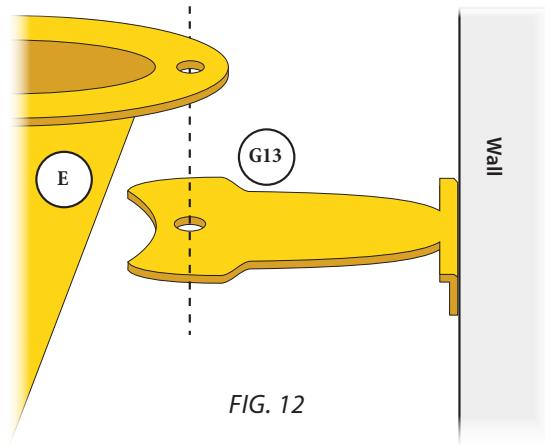

FIG. 12
Align the Rear Support Brace (G13) underneath the hole closest to the wall on the upper flange of the Cyclone (E) [FIG. 12].